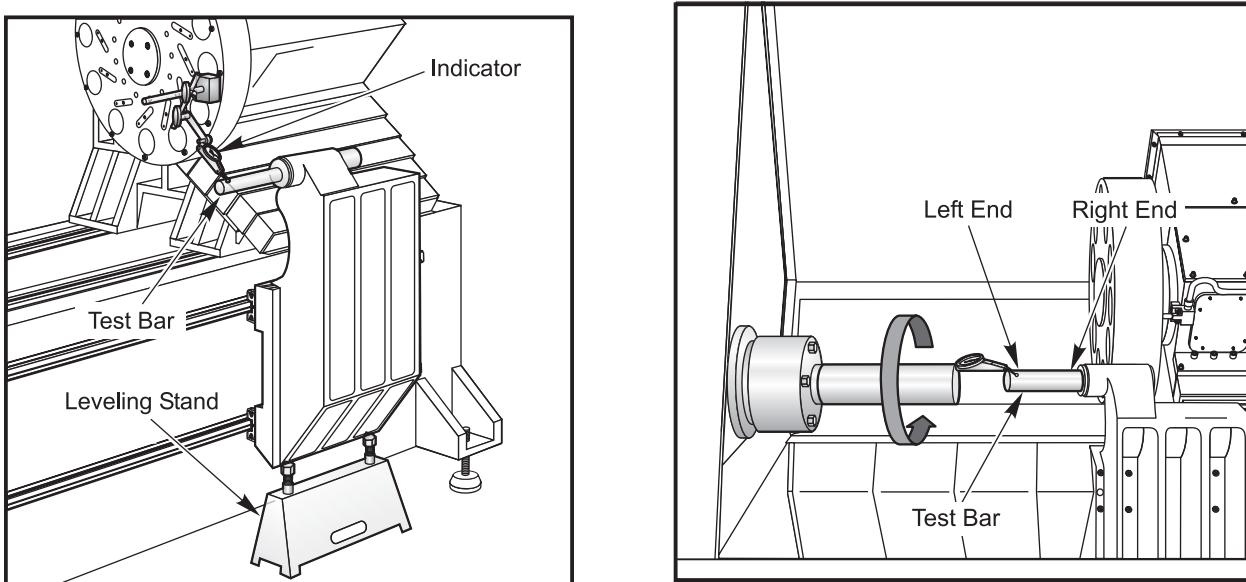

Figure 3.3-1. Tailstock leveling indicator setup.
1. Loosen the mounting bolts that attach the TS to the linear guide trucks, allowing TS to rest on bolts. Place the Leveling Stand under the bottom edge of TS and manually raise the jack bolts. (Refer to Figure 3.3-1)
3. Sweep the diameter of the Test Bar and note the vertical runout. Refer to Figure 3.3-1.